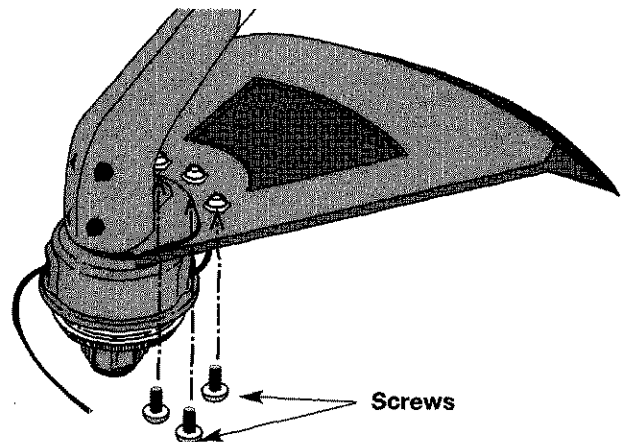

Fig. 8
3. Install a screw into the hole from the bottom of the cutting attachment shield and screw it into the nut installed in step #2 (Fig 8). Do not tighten.